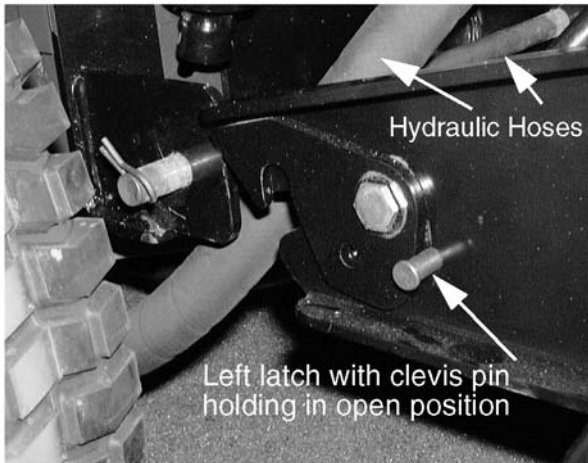

Figure 8-69.
14. Reinstall the left clevis pin through the rear-most hole, in order to hold the latch open. See Figure 8-69.